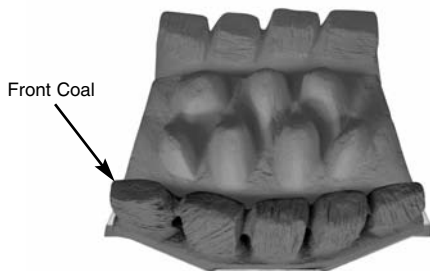

Fig. 51
3. Position the front coal on the front coal retainer, making sure that the back edge is pushed up against the front of the burner strip (Fig. 51).